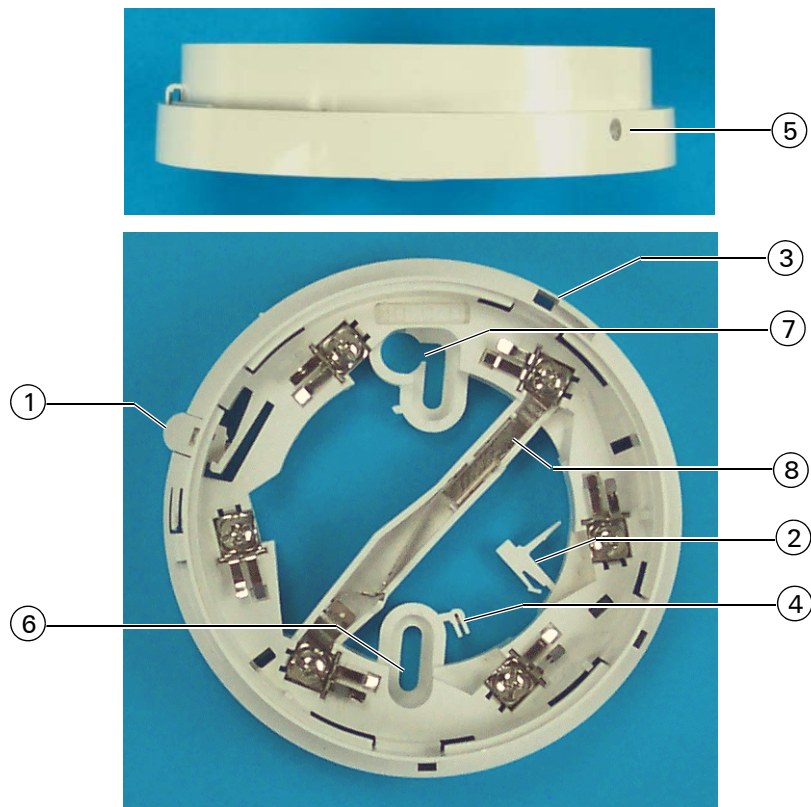

Fig. 1: 4B-C 4" base
Figure 1 shows a typical base in the series (the 4B-C). The numbered items are explained further throughout this guide.
- 1 Snap the pin free of the moulding (see Item 2 in Figure 1).
- 2 Depress and hold in the Temporary Park Plunger (see item 1 in Figure 1).